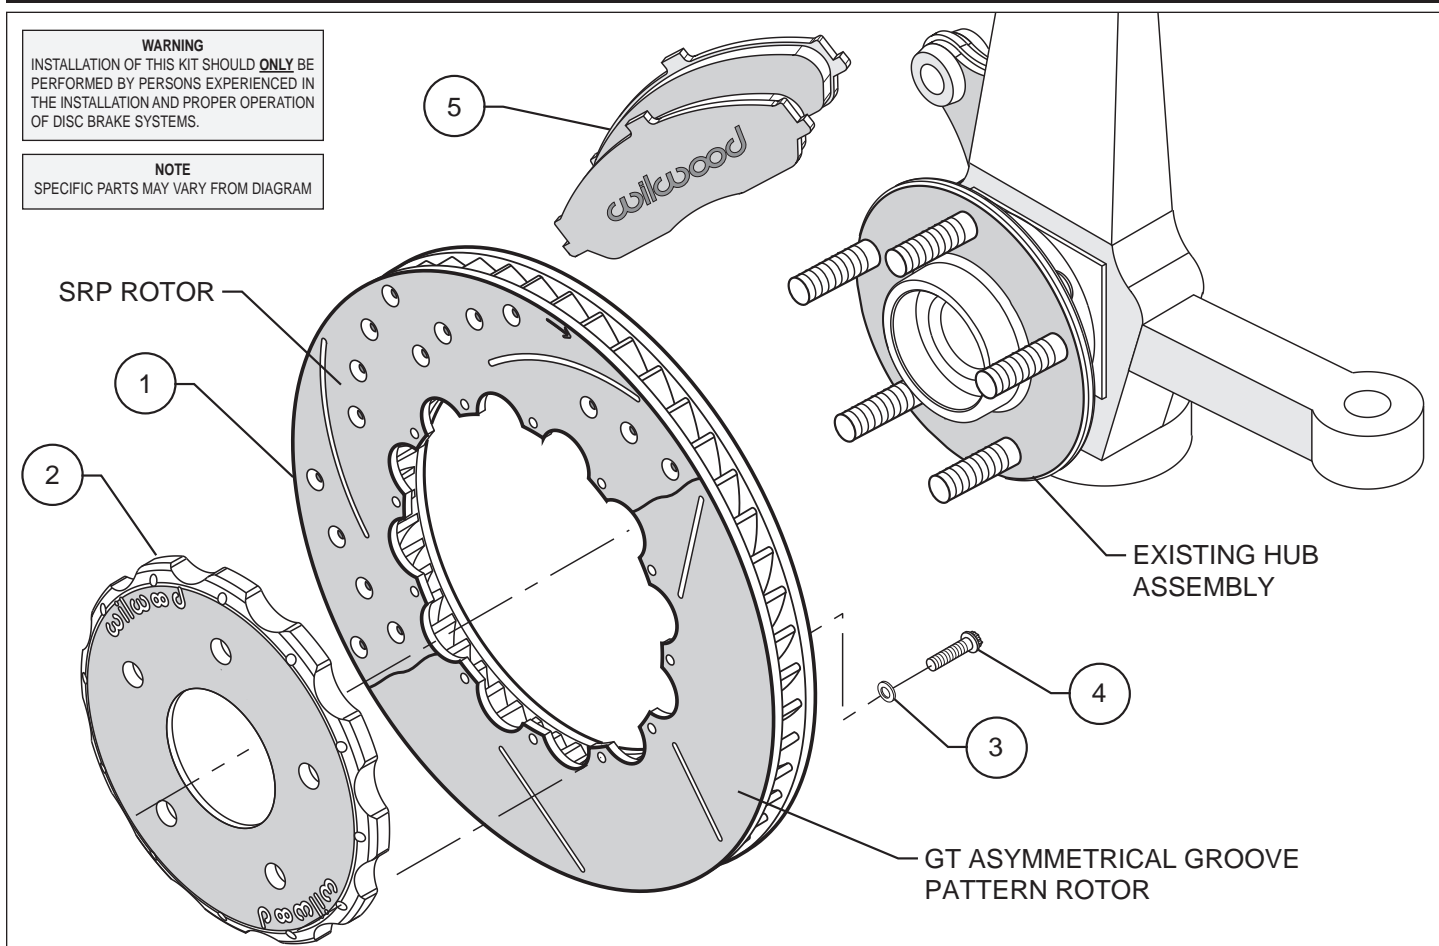
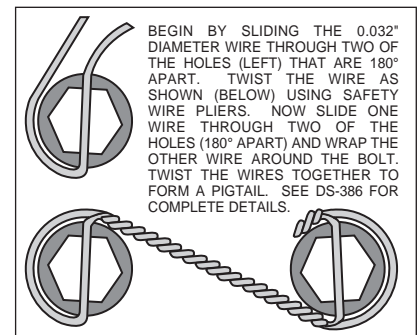
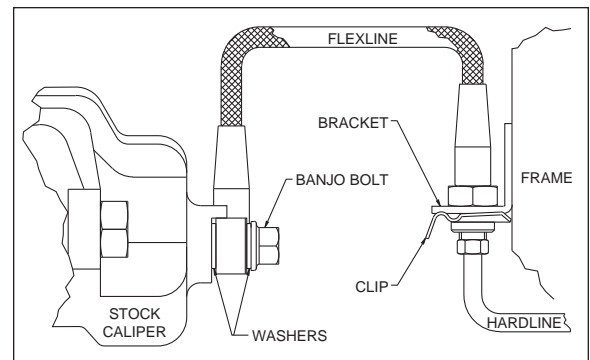

Figure 1. Typical Installation Configuration
Figure 2. Safety Wire Diagram
Figure 3. Brake Line Diagram
- Assemble the rotor (1) to the hat (2) with the bolts (4) and washers (3) provided in the configuration shown in Figure 1. Using an alternating sequence, apply red *Loctite*® 271 to the threads and torque bolts to 155 **in-lb**. For an added measure of security, the bolts may be safety wired using standard 0.032 inch diameter stainless steel safety wire as shown in Figure 2. Please refer to Wilwood's data sheet DS-386 (available at [www.wilwood.com/Pdf/DataSheets/ds386.pdf](http://www.wilwood.com/Pdf/DataSheets/ds386.pdf)) for complete safety wire installation instructions.
- Align the hole pattern on the hat (2) with the stud pattern on the hub. Slide the hat and rotor assembly (1 and 2) onto the hub. Check to be sure the hat seats squarely against the hub face. The hub must be free from any rust, debris, casting burrs, machining irregularities, etc. Use several lug nuts to hold the rotor and hat firmly against the hub face.
- Install new Wilwood brake pads (5) into stock caliper bracket.
- Install Wilwood's stainless steel braided flexline hose kit (6), see Figure 3. **NOTE:** OEM rubber brake hoses generally cannot be adapted to Wilwood calipers. The caliper inlet fitting is a 1/8-27 NPT. The preferred method is to use steel adapter fittings at the caliper, either straight, 45 or 90 degree and enough steel braided line to allow for full suspension travel and turning radius, lock to lock. **Carefully route lines to prevent contact with moving suspension, brake or wheel components.** Wilwood hose kits are designed for use in many different vehicle applications and it is the installer's responsibility to properly route and ensure adequate clearance and retention for brake hose components. Wilwood offers a hose kit, P/N 220-8021, which includes hoses, fittings, etc., all in one package for this application.
- Using new mounting hardware supplied in the kit (6), bolt flexline to back of stock caliper, see Figure 3. Torque banjo bolt to specifications included with the flexline kit (DS-573).